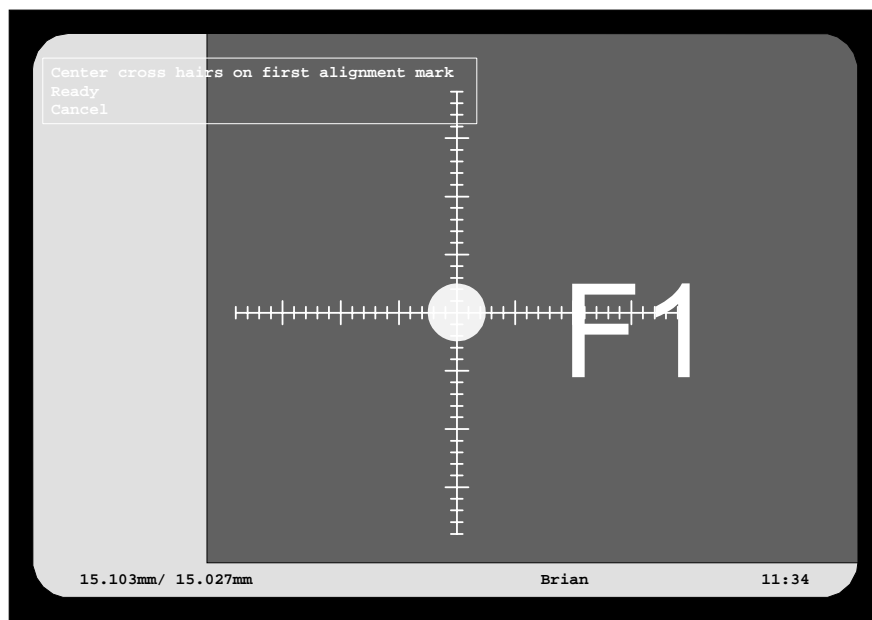

Figure 3-15. Centering the first alignment
- Center the cross hairs on fiducial mark F1, see Figure 3-15 and confirm the first alignment mark by pressing <Enter> when *Ready* is highlighted.